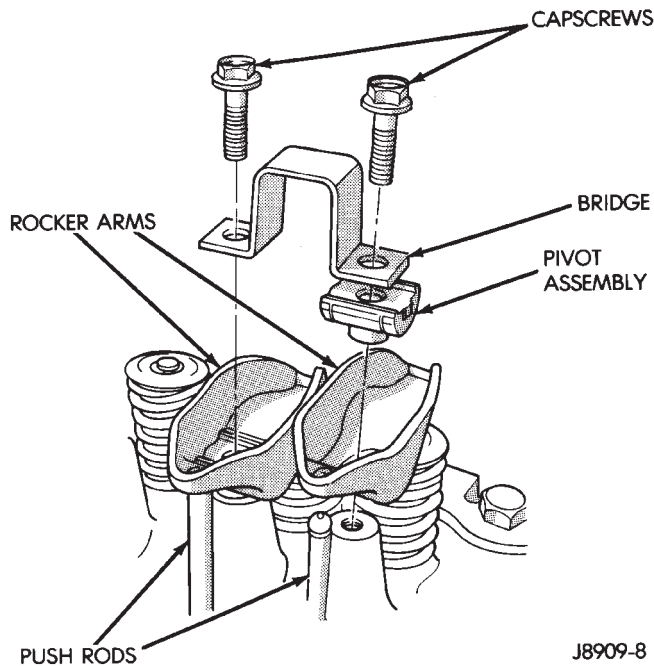

Fig. 2 Rocker Arm Assembly
- (1) Remove the engine cylinder head cover.
- (2) Remove the capscrews at each bridge and pivot assembly (Fig. 2). Alternately loosen the capscrews one turn at a time to avoid damaging the bridges.
- (3) Check for rocker arm bridges which are causing misalignment of the rocker arm to valve tip area.
- (4) Remove the bridges, pivots and corresponding pairs of rocker arms (Fig. 2). Place them on a bench in the same order as removed.
- (5) Remove the push rods and place them on a bench in the same order as removed.